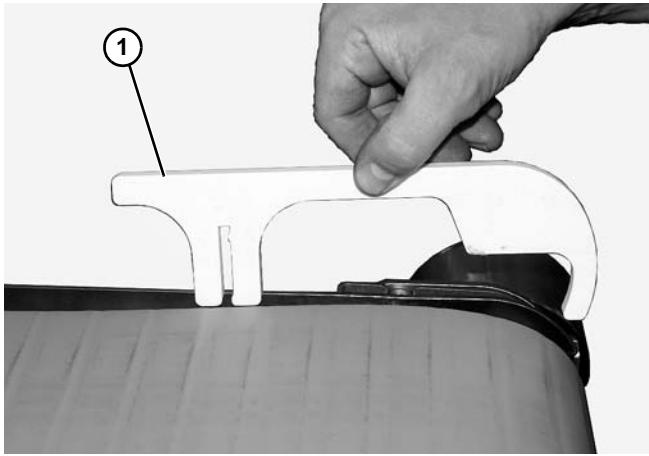

Figure 42
1. Remove the drive tail belt guides (**Figure 42, item 1**) from the frame rail. Repeat on opposite side.